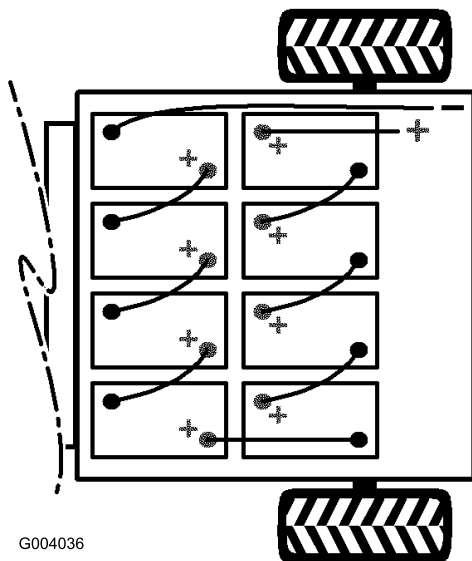

Figure 6
4. Install the batteries as shown in Figure 6.
**Note:** Pay attention to the battery polarity when installing the new batteries (Figure 6).
6. Connect the batteries together with the battery cables included in loose parts, as shown in Figure 6. Ensure the cable routing does not allow cables to contact any sharp edges.
7. Tighten the bolt and secure the other side of the clip with a new bolt (5/16 x 3/4 inch) and flange nut (5/16 inch) (Figure 6).
8. Connect the long, red, main positive lead between the bank of batteries and the vehicle (Figure 6).
9. Connect the long, black, main negative lead between the bank of batteries and the vehicle (Figure 6).